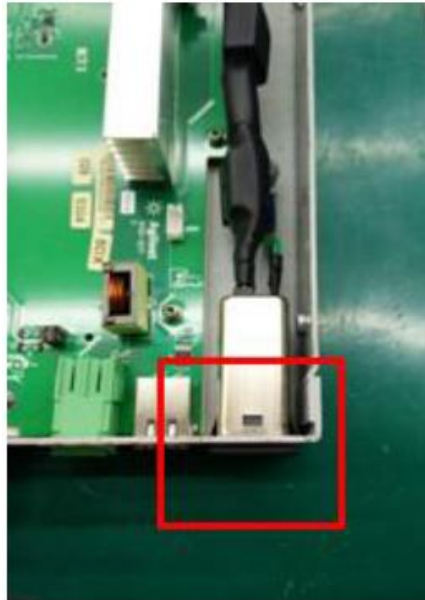

Figure 14
15. Press in AC line socket onto chassis as shown in Figure 14.